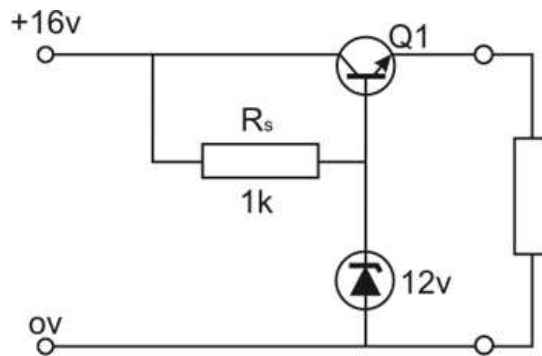

Figure 11. Series transistor regulator
3. In the circuit of Figure 11 below, the output voltage is measured to be approximately 16V. The transistor Q₁ is tested and found to be in working order. State the likely fault.